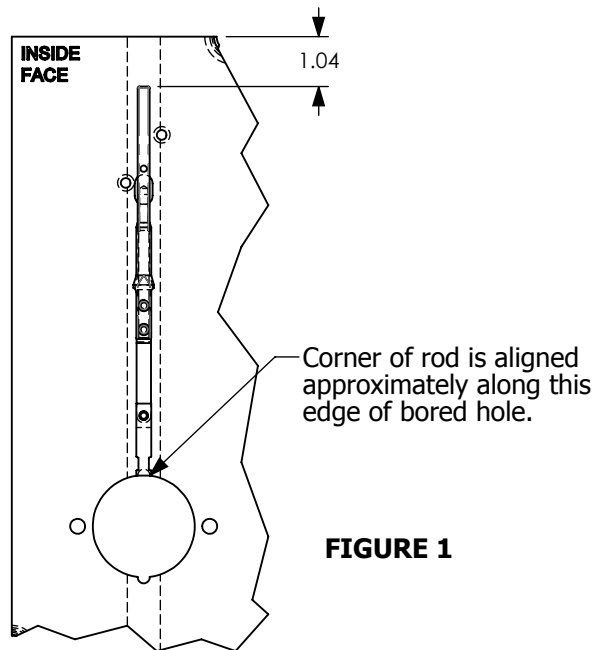

FIGURE 1
2. CENTER indicated edge of rod along the top edge of large bored hole as shown in Figure 1.